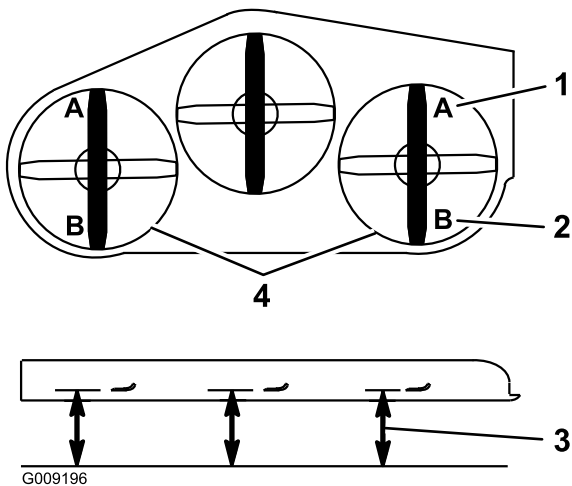

**Figure 85**
5. Push the deck lift pedal all the way forward and the deck will latch at the 5 1/2 inch (14 cm) transport position (Figure 85).